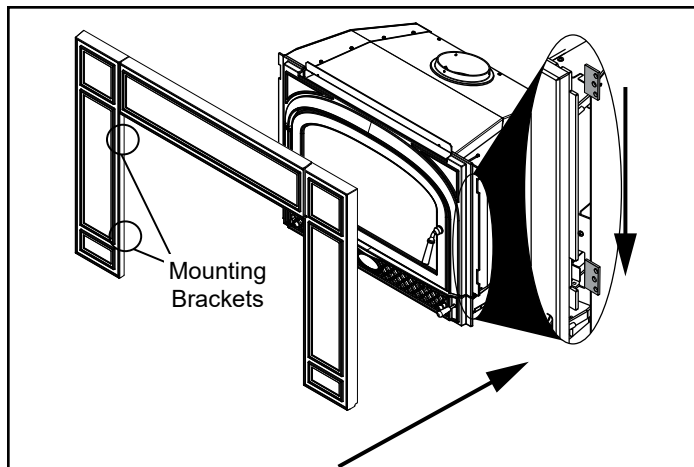

Figure 21.2
5. Slide cast trim assembly over the top of the appliance and set in position by guiding the right and left cast side bracket through the slots on the side of the appliance. Gently drop the assembly down into place (**Figure 21.2**).